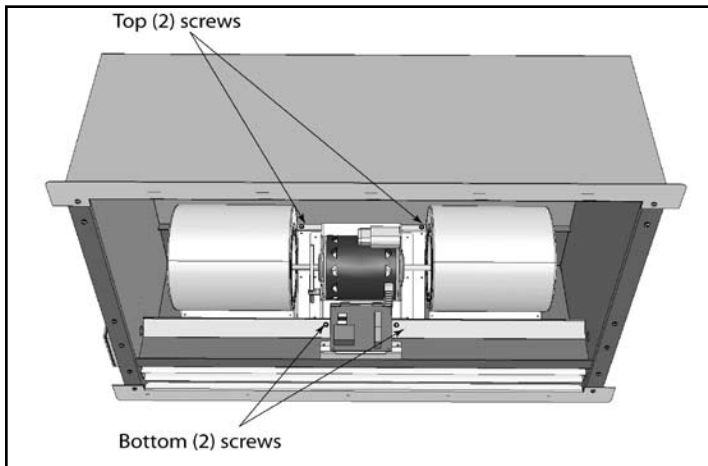

Figure 8
- Using a 5/16" hex driver, loosen and remove the (4) self drilling screws that hold the blower plate to the frame of the unit. Remove the two screws at the top of the product last, as after they are removed, the module will be free to drop out of the cabinet. **See Figure 8** for location of all screws.